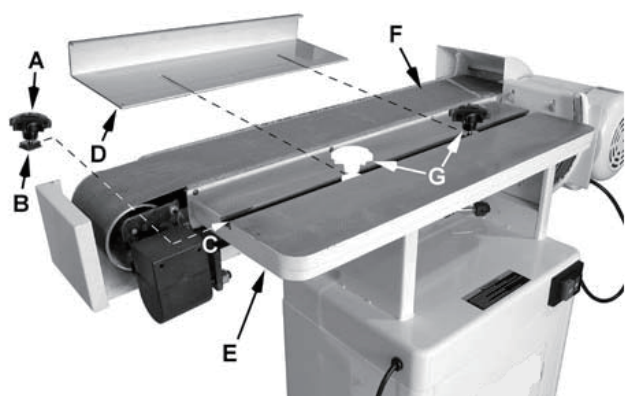
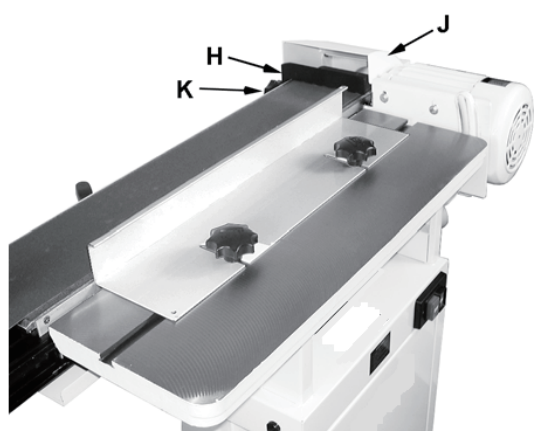
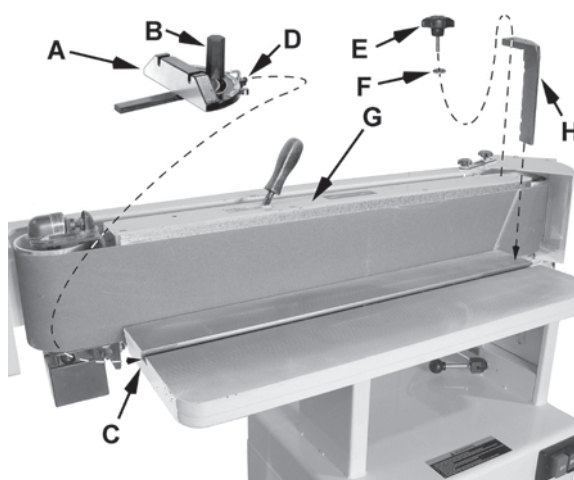

Fig. 13
Fig. 14
Fig. 15
Referring to Figure 13:
1. Place 5/16 flat washers (not shown) and guide blocks (B) on two 12 mm lock knobs (A) – Note: the 12 mm refers to the threaded shaft length.
2. Insert the guide blocks (B) into the miter slot (C) and position the lock knobs (G) on the table (E) as shown.
3. Place the removable fence (D) on the table and secure by tightening the lock knobs (G, Fig. 13 and Figure 14).
The backstop (H, Fig. 14) can also be used by swiveling the drum guard & dust port (J, Fig. 14) out of the way and placing the backstop pin in the positioning hole and securing in place with the lock knob (K, Fig. 14) and 5/16" flat washer.
NOTE: This is better shown in Figure 15. The drum guard & dust port (J, Fig. 14) can then be returned to the position shown.
Referring to Figure 15: